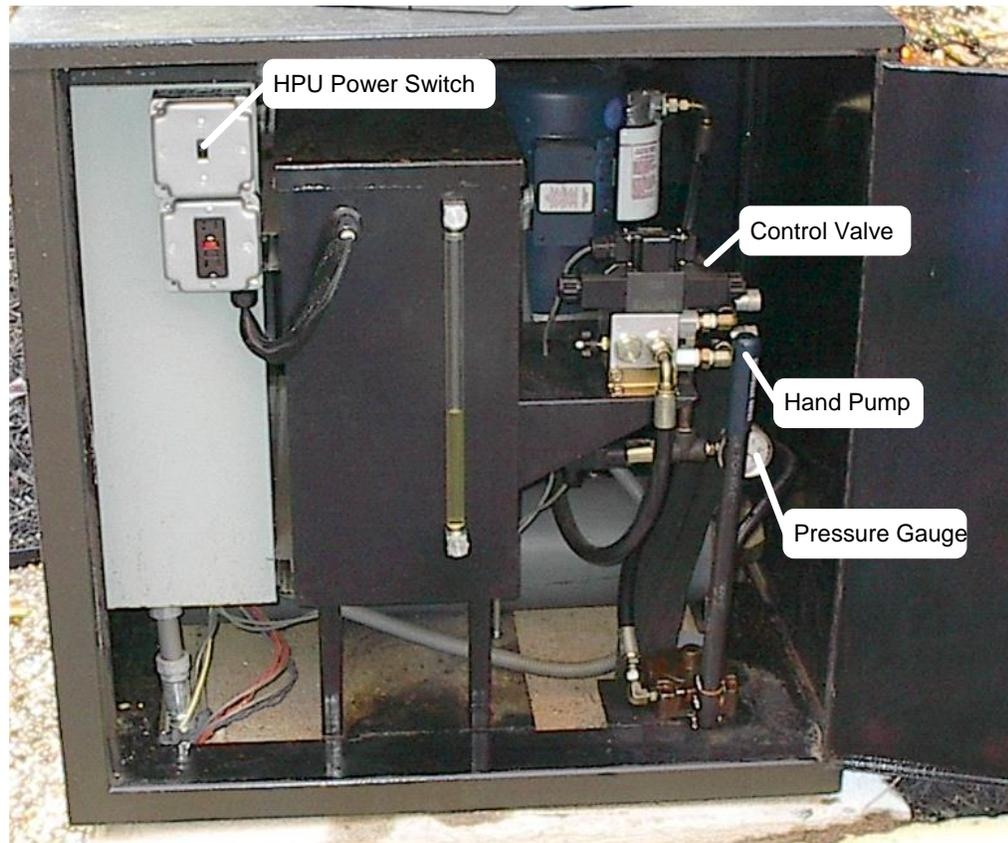

Figure 6 - Generic HPU
- 3.5.2.1. Open door to HPU cabinet and identify the power switch, pressure gauge, manual hand pump and control valve(s). Your pumping unit may vary slightly from these illustrations. Consult technical assistance if unsure of locations of these components. See **Figure 6 - Generic HPU**.